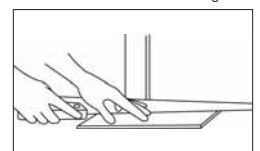

Figure 6
- Undercut door casings and jams. Remove any existing base, shoe mold or doorway thresholds. These items can be replaced after installation. All door casings and jams should be undercut to avoid difficult scribe cuts (Figure 6).